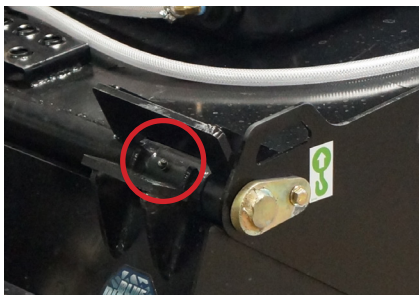

Figure 3
The broom hood pivot points are located on the back of the bucket towards the top (see Figure 3). There is one (1) on each side.